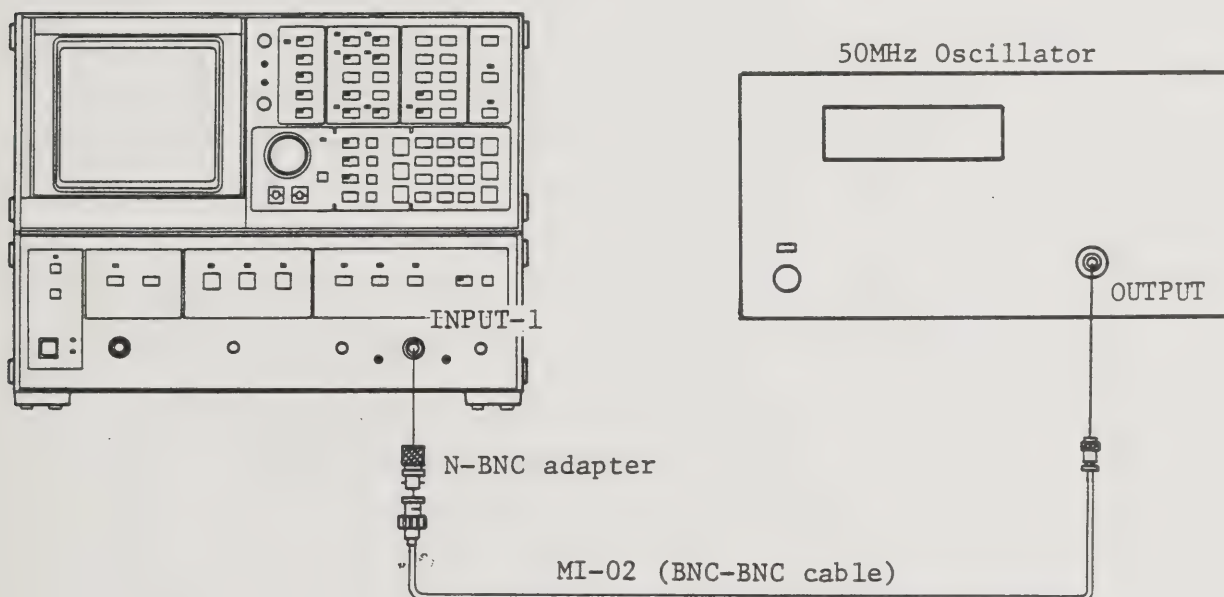

Fig. 4-1 Measurement setup
- (1) Connect the output of a 50 MHz oscillator to INPUT-1 on the TR4172 as shown in Figure 4-1.